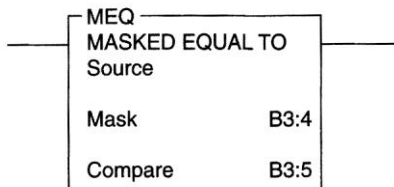

Figure 10-22 Instruction for question 34.
34. What value(s) stored in the source address of Figure 10-22 would make this instruction true? 34._____